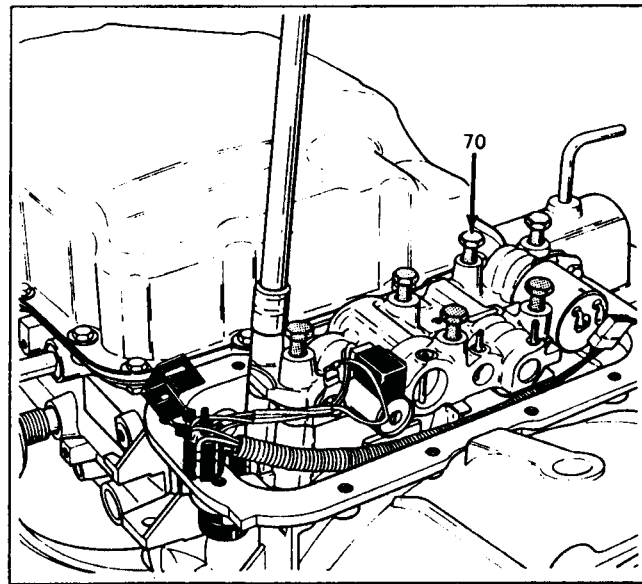

Figure 6
10. Remove the 7 adapter case valve body bolts using a 13mm socket (Figure 6).